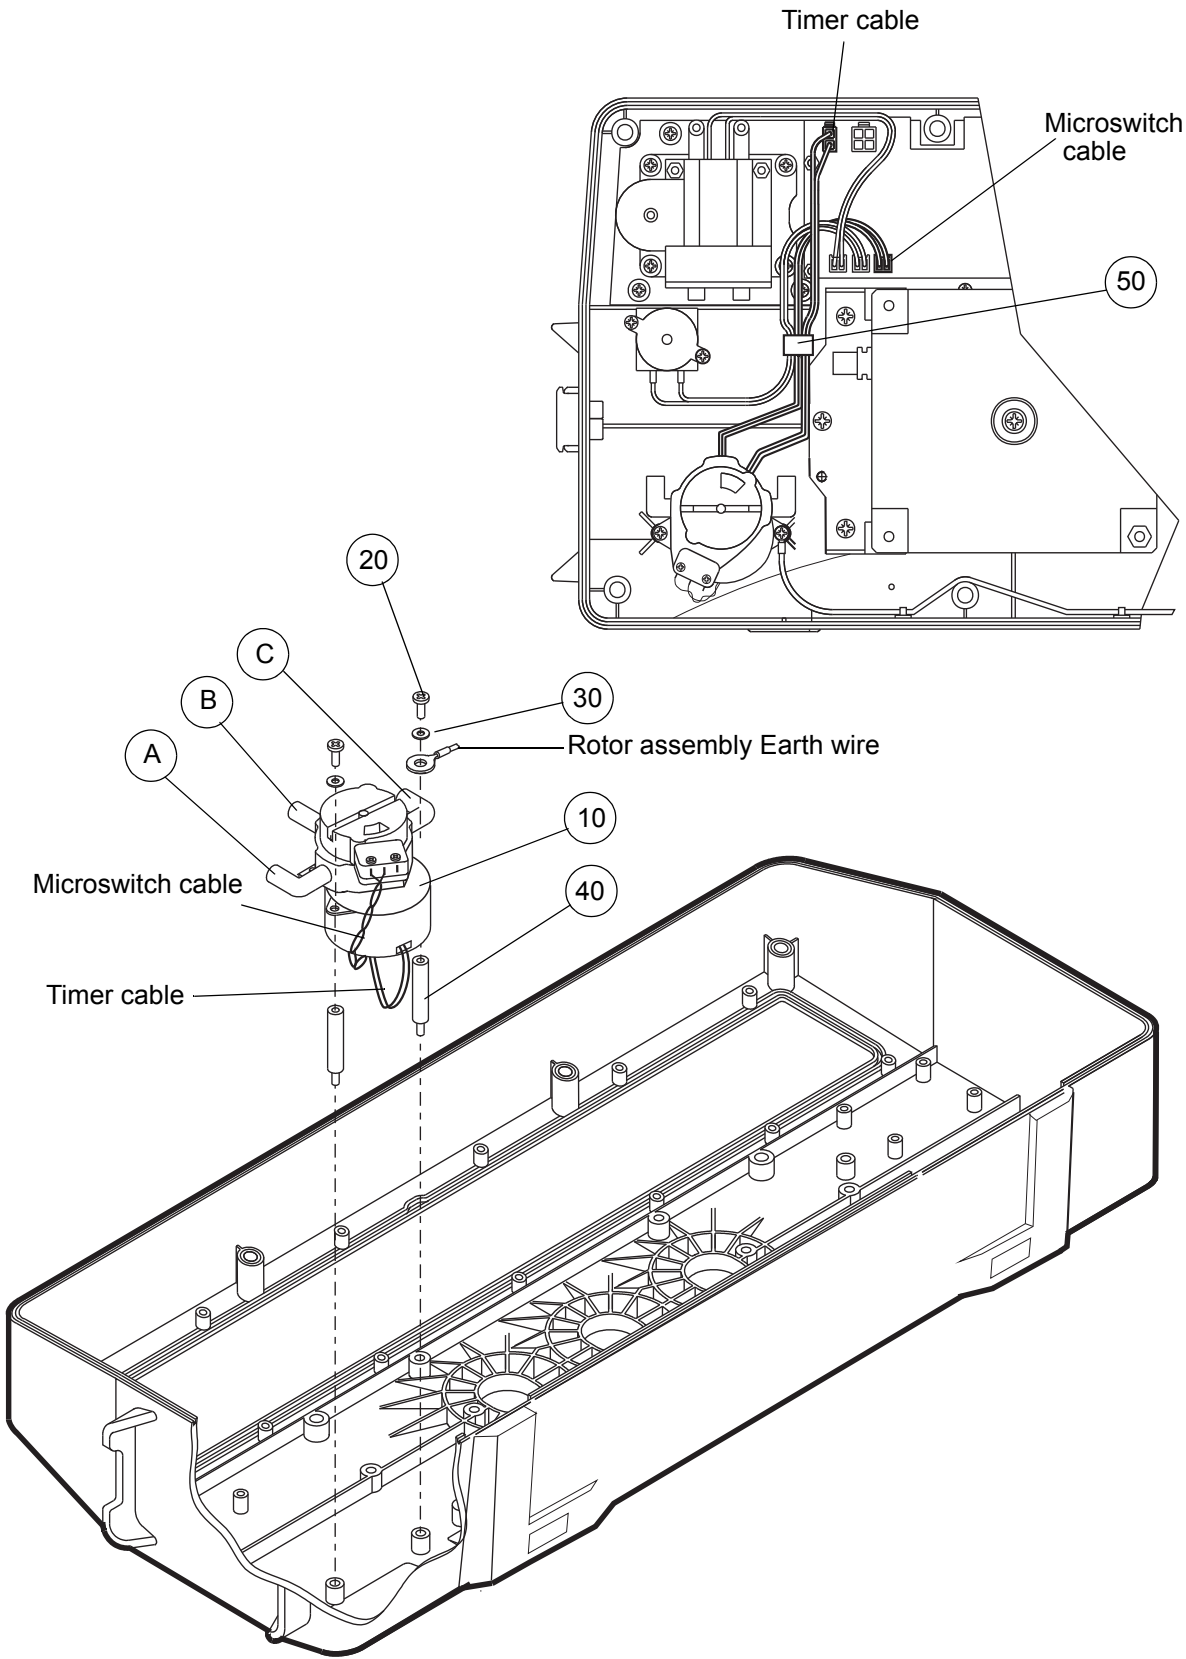

Figure 14 - Replacing the Rotor Assembly
- 18.4 Carefully remove the cable tie (Fig 14, Item 50) holding the three cables.
- 18.5 Remove the screws (Fig 14, Item 20), the washers (Fig 14, Item 30) and the earth wire from the rotary valve assembly (Fig 14, Item 10).
- 18.6 Remove the rotary valve assembly (Fig 14, Item 10) from the pump case.
- 18.7 If the pillars (Fig 14, Item 40) are damaged then replace as necessary.
- 19.1 If necessary, install the pillars (Fig 14, Item 40) into the pump case.
- 19.2 Install the rotary valve assembly (Fig 14, Item 10) onto the pillars (Fig 14, Item 40). Make sure the microswitch and timer cables lead underneath the rotary valve assembly, between the pillars.
- 19.3 Install the screws (Fig 14, Item 20), washers (Fig 14, Item 30) and the rotary valve assembly earth wire. Tighten the screws to secure the rotary valve assembly.
- 19.4 Connect the microswitch and timer cables to the PCB display board and cable tie the wires as shown in Figure 14. Install a cable tie (Fig 14, Item 50) around the microswitch, timer and sensor cables as shown.
- 19.5 Connect the hoses to the tubes A, B and C on the rotary valve assembly (Fig 14, Item 10).